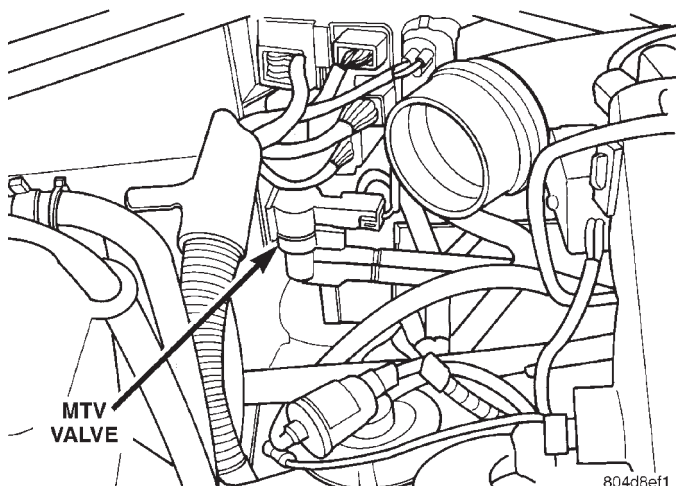

Fig. 77 MTV Solenoid—3.5L Only
- (1) Remove air cleaner tube.
- (2) Remove electrical connectors from the manifold tuning valve solenoid (Fig. 77).
- (3) Remove solenoid mounting bracket screw.
- (4) Remove solenoids and bracket.
- (5) Lift MTV solenoid up off of bracket.